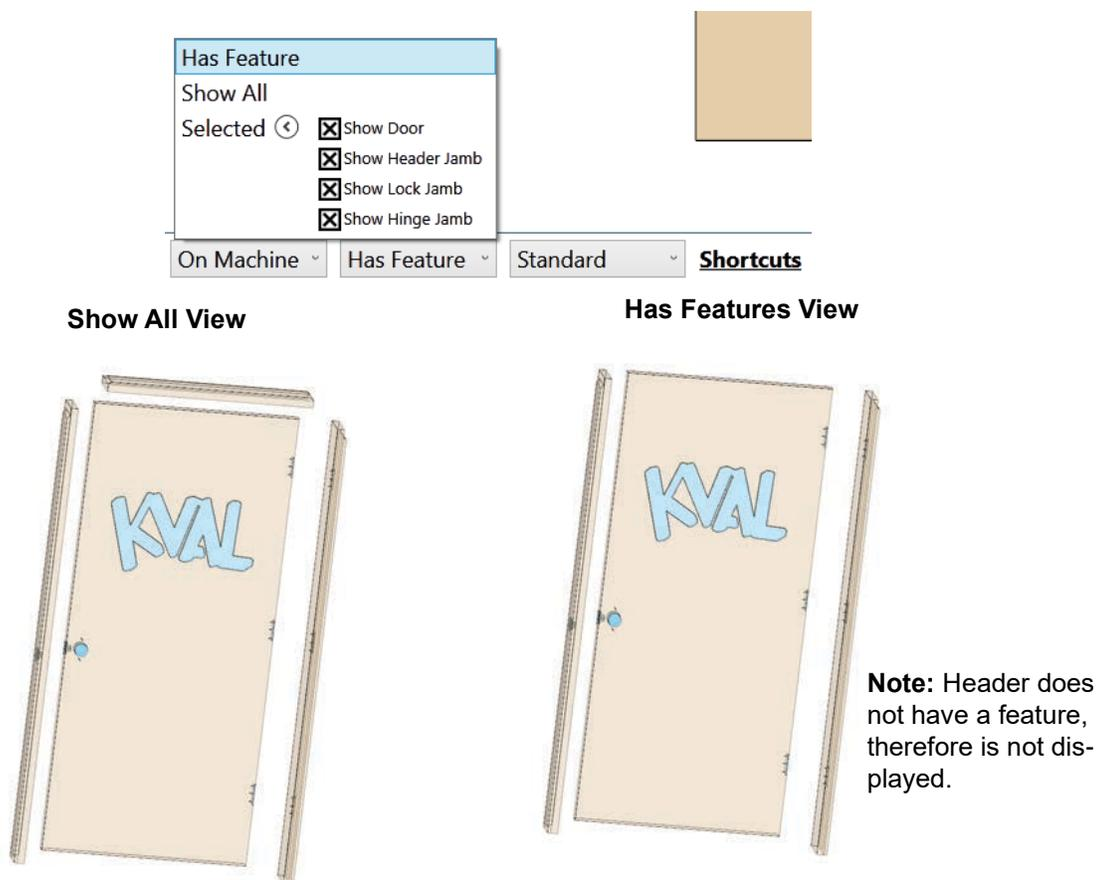

FIGURE 1- 24. The Show Button Drop Down Menu
**Note:** Figure 1- 24 shows the door in the **On Machine** view to accentuate the change in views.